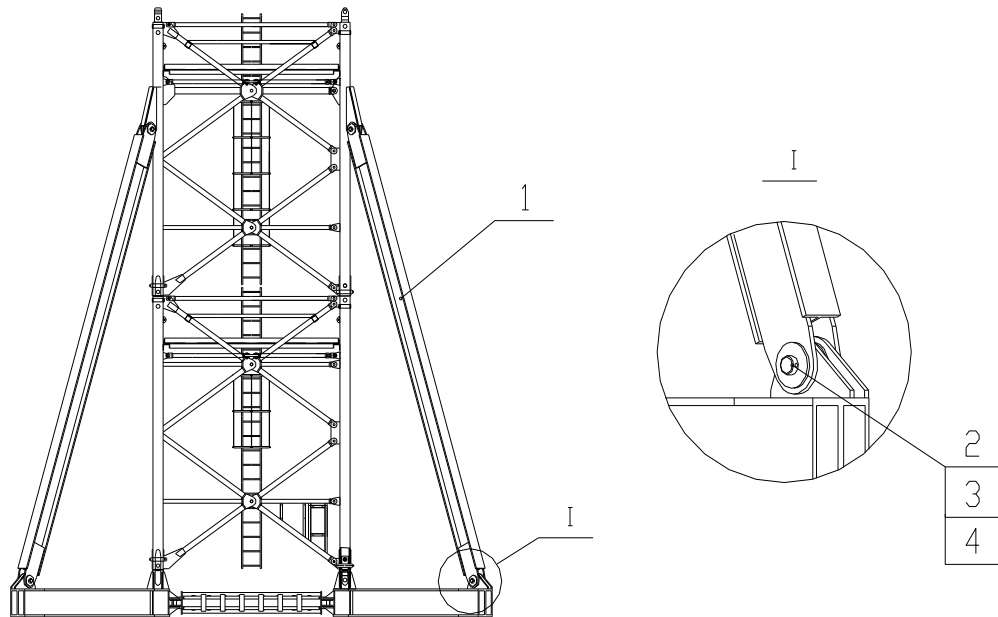

Fig. 4-60 Installing the struts
- 3) Connect one end of the strut with the base tower section II and connect the other end with the piece beam by pins of $\Phi 100$. Refer to Fig. 4-60 and Table 4-33.